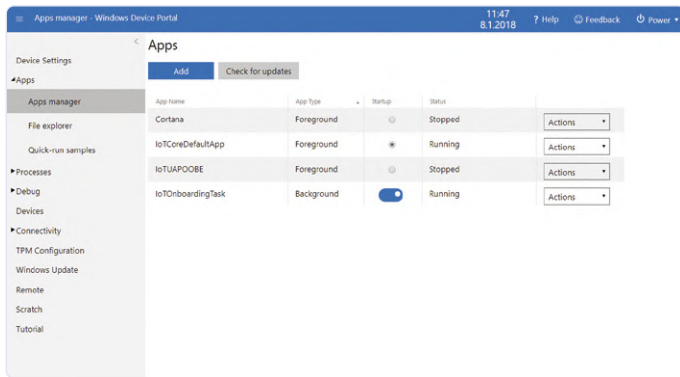

Figure 3: Options menu for the OpenWeather-API.
- **Integration of the weather service:** Here we rely on the use of the weather service OpenWeather [3]. This facility offers various services for retrieving weather data. In addition to chargeable offers, you can use the *Current weather* and *5 days/3 hour forecast* services free of charge (**Figure 3**). After registration, an API key is generated with which the weather data can be requested. The convention for such a call is as follows, for example: